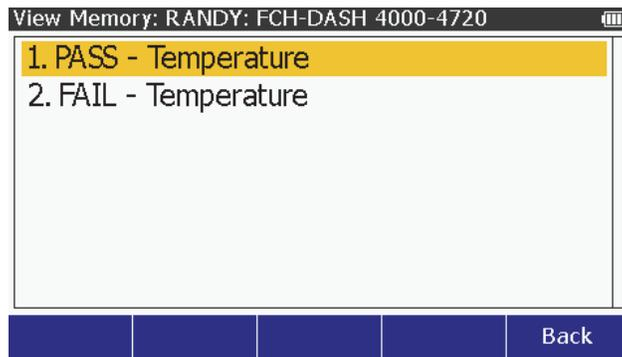

Figure 57. Test Results Screen
- Push **ENTER** to show the test results data saved for the test ID. See Figure 57.